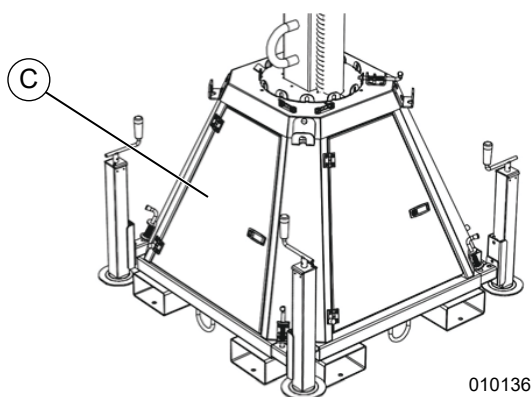

Figure 2-8. Internal Storage
See Figure 2-8. Cabinet (C) can be used for storing nonflammable items, such as power cords, small equipment, or tools.